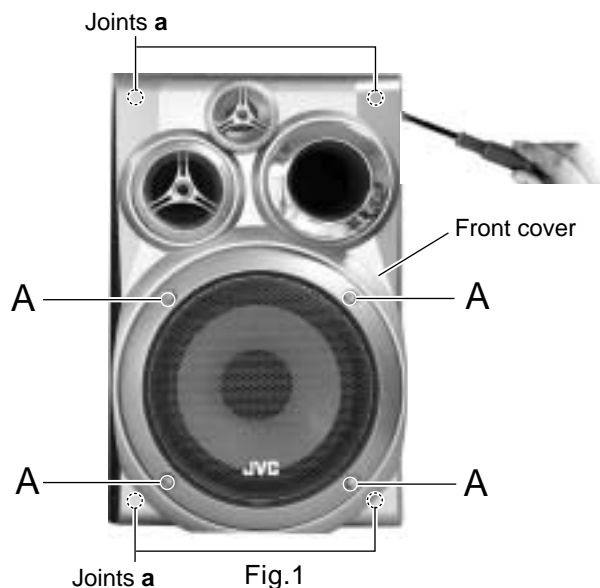

Fig.1
■ Removing the front cover (See Fig.1, 2)
Note: Because it is difficult to take away the cover, insert a minus driver, etc. in the place between the main body and the front cover as shown in Fig.1 before removing the front cover. Exercise care not to damage the main body and the front cover when inserting the minus driver. For this purpose, insert the minus driver together with cloth and the like.